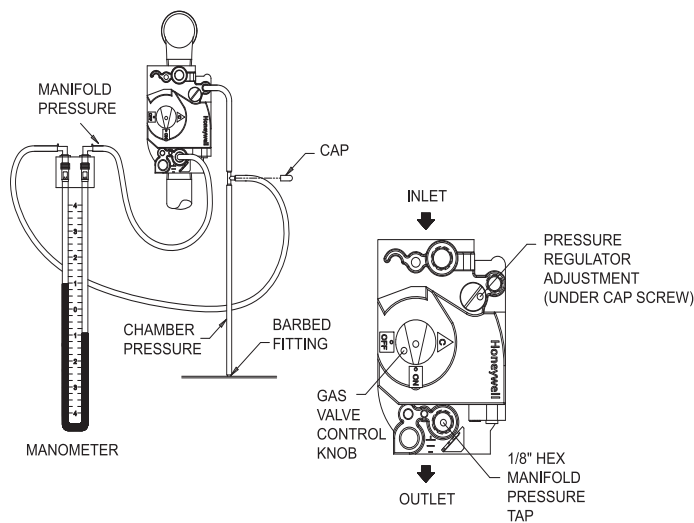

Figure 21 - Measuring Manifold Gas Pressure
4. Locate the reference hose on the first gas valve which goes from the vent fitting on the gas valve to the barbed fitting on the deck of the unit (see Figure 21).
6. Remove the 1/8" hex plug from the manifold pressure tap on the gas valve (see Figure 21). Retain plug for future use.
7. Install a fitting in this tap that is suitable for connection of a hose to a manometer, or (+) side of a magnahelic gauge (see Figure 21).